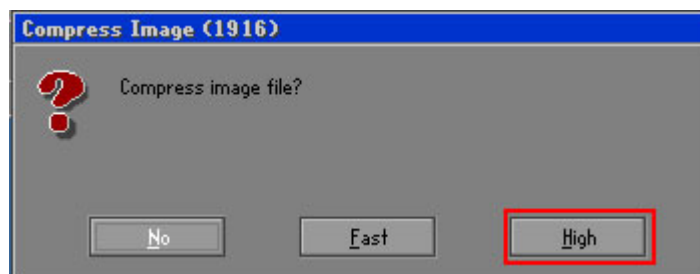

Figure B-17: Compress Image
Step 8: When the Compress Image screen appears, click **High** to make the image file smaller. See **Figure B-17**.